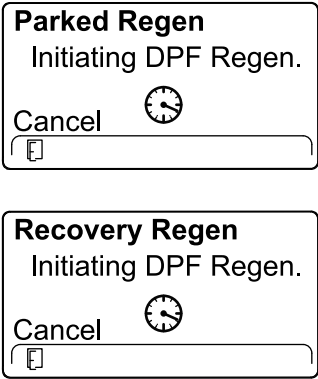

Figure 56
5. The InfoCenter displays the INITIATING DPF REGEN message (Figure 56).